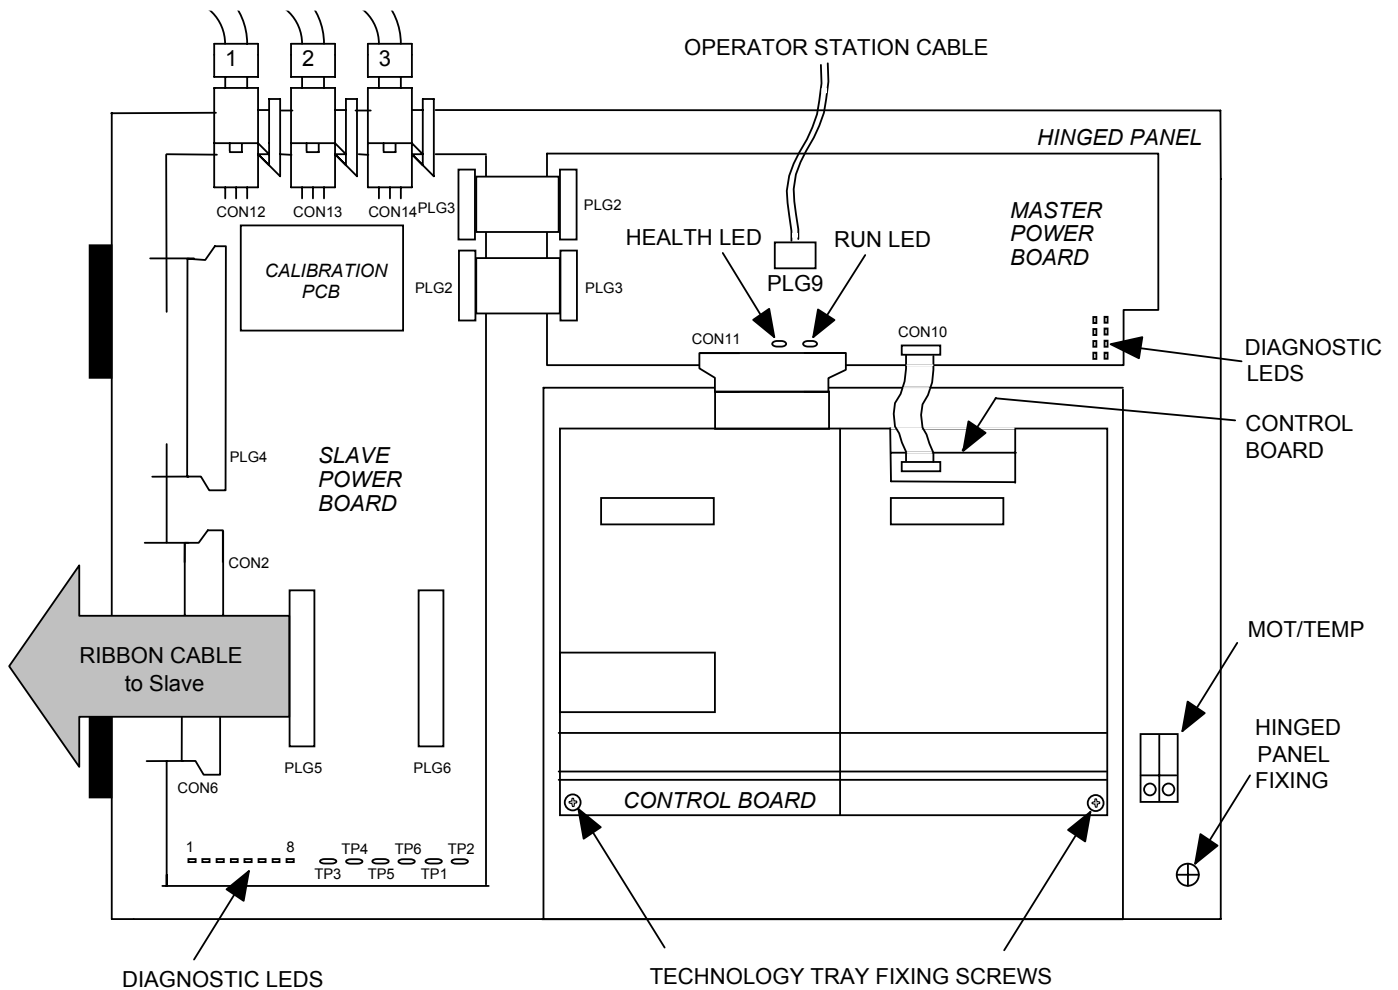

Figure 7.1 Master Drive Arrangement
4. It is now possible to view the Control Board as shown in figure 7.1.
1. Follow steps 1 to 3 of procedure "Control Board Replacement". Release hinged panel fixing - 1 off $\frac{1}{4}$ turn fastener as shown in Figure 7.1.
4. Re-fit hinged panel and $\frac{1}{4}$ turn fastener as shown in figure 7.1.
6. Re-connect 4-way op-station cable to PLG9 (see figure 7.1).
1. Follow steps 1 to 3 of procedure “Control Board Replacement”. Release hinged panel fixing - 1 off $\frac{1}{4}$ turn fastener as shown in Figure 7.1.
7. Re-fit hinged panel and $\frac{1}{4}$ turn fastener as shown in figure 7.1.
9. Re-connect 4-way op-station cable to PLG9 (see figure 7.1).
2. Disconnect 4-way op-station cable from PLG9 (see figure 7.1).
4. Release hinged panel fixing - 1 off $\frac{1}{4}$ turn fastener as shown in figure 7.1.
5. Release hinged panel fixing - 1 off $\frac{1}{4}$ turn fastener as shown in figure 7.1.
12. Re-connect 4-way op-station cable to PLG9 (see figure 7.1).